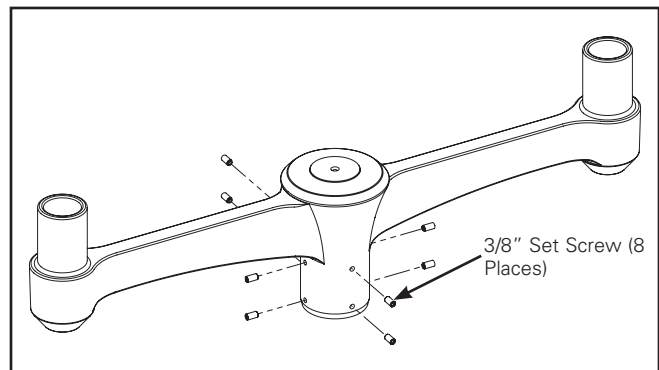

Figure 3.
6. Tighten all eight (8) 3/8 – 16 set screws (provided) to 180 in-lbs. (Figure 3.)